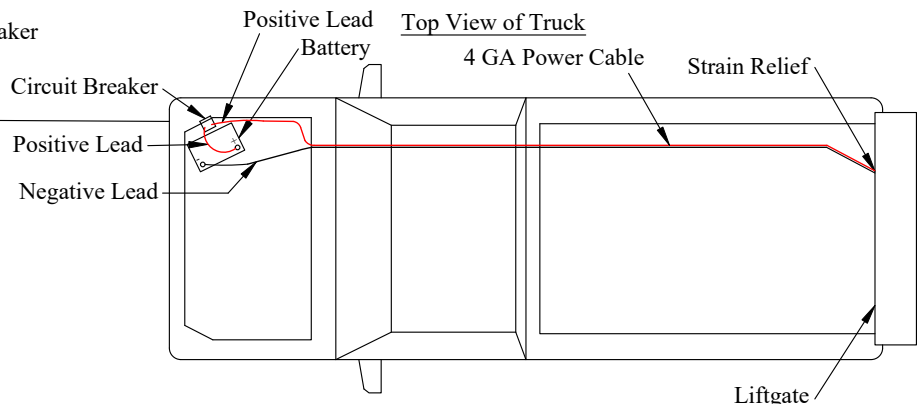

Figure 17: Electrical routing.
3. **Loosen** the strain relief on the back of the liftgate mainframe (Figure 17).
4. **Pull** the power cable (coiled up in the liftgate mainframe) carefully through the strain relief. Leave approximately two (2) inches of slack inside the liftgate mainframe (Figure 17).
6. **Route** the power cables along the frame (Figure 17) to the battery following the *Tommy Gate Recommended Electrical Wiring Guidelines*.